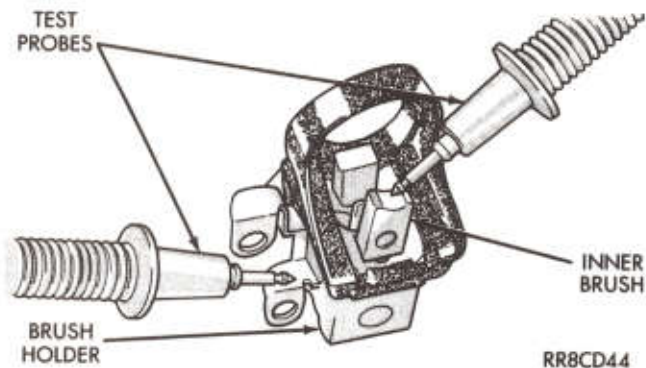

Fig. 1—Test Inner Brush Continuity
(1) Verify that the brushes move smoothly in and returns fully to the stops when released. If not, replace the brush holder assembly.
(2) Using an ohmmeter, test for continuity from the inner brush to the field block terminals. One should be open and the other should be closed (Fig. 1).